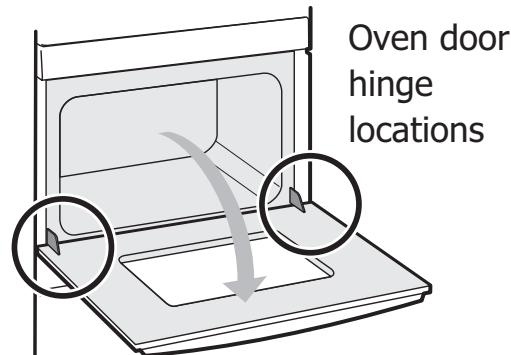

Figure 24: Door hinge location.
3. Fully open the oven door, horizontal with floor (Figure 24).